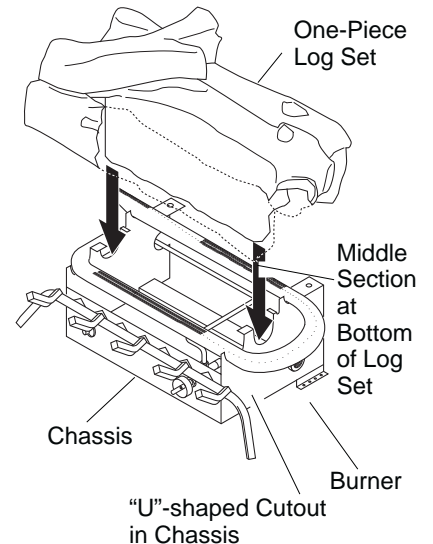

Figure 20 - Installing Golden Oak or Birch One-Piece Log Set
1. Place one-piece log set on grate to fit as illustrated in Figure 20. Make sure middle section at bottom of log set is seated into "U"-shaped cutout in center of chassis (see Figure 20). *Note:* 36" and birch models have more features but fit on the chassis the same. Log will fit securely on chassis. **IMPORTANT:** Make sure log does not cover any burner parts.